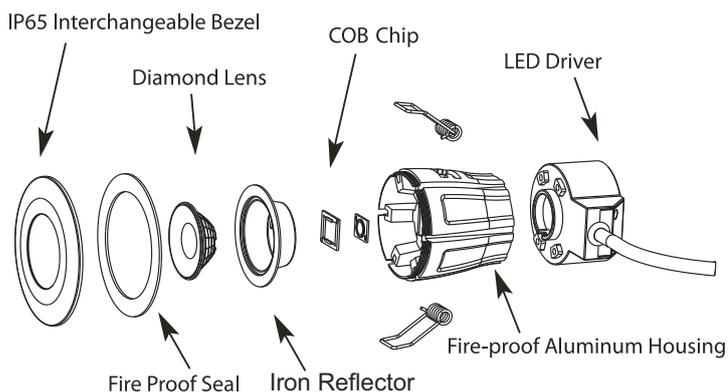

Fig 1.
- Cut a suitable hole in the ceiling as per the cut-out details ensuring that it does not infringe with electrical cables, water/gas pipes or ceiling joists. (see fig 1.)